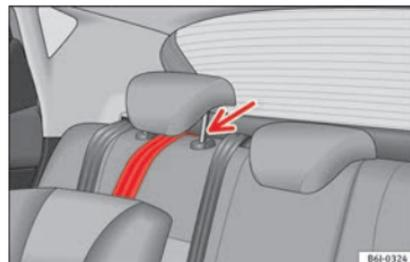

Fig. 27 Retainer strap: correct adjustment and fitting.
- Guide the strap under the rear seat head restraint » Fig. 27 (lift the head restraint where necessary).